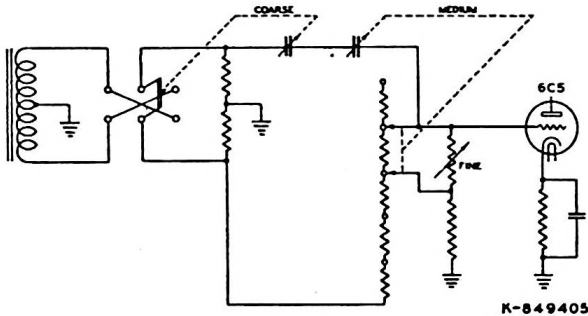

Figure 1—Phase Shifting Network
1. An input circuit for the essentially sinusoidal signal from the audio signal generator, including a level control, marked "CALIBRATE," and a phase-shift network comprising three controls—coarse, medium and fine, as shown in Figure 1.